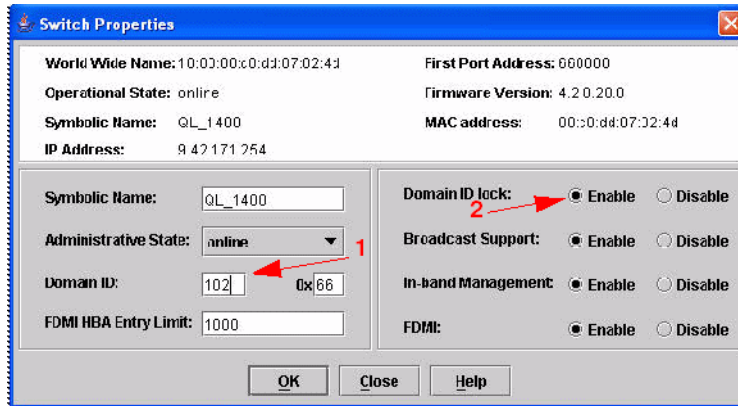

Figure 7-37 Switch Properties window
- From the Switch Properties dialog (Figure 7-37 on page 199), enter a symbolic name for your switch (for example, QL_1400). Enter a Unique Domain ID ranging from 97-127 (1). Click the **Enable** radio button next to Domain ID lock (2). In our example, we selected 102 for the DID. Click **OK** to continue.